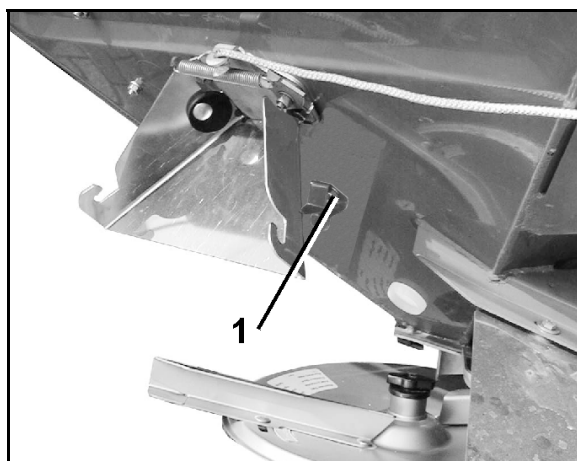
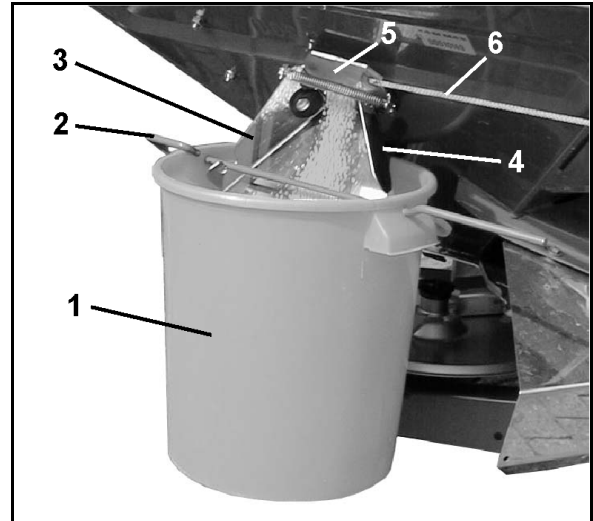

Fig. 57
Fig. 59
1. Hook the collection bucket (Fig. 59/1) with the bracket (Fig. 59/2) on to the outlet chute (Fig. 59/3). Engage the collection bucket in the clamping device (Fig. 59/4 and Fig. 57/1).
2. Open the lateral slider (Fig. 59/5) of the discharge chute fully for approx. 5 sec. with the rope (Fig. 59/6) – this ensures a uniform flow of fertiliser. Afterwards, pour back the collected fertiliser into the spreader.